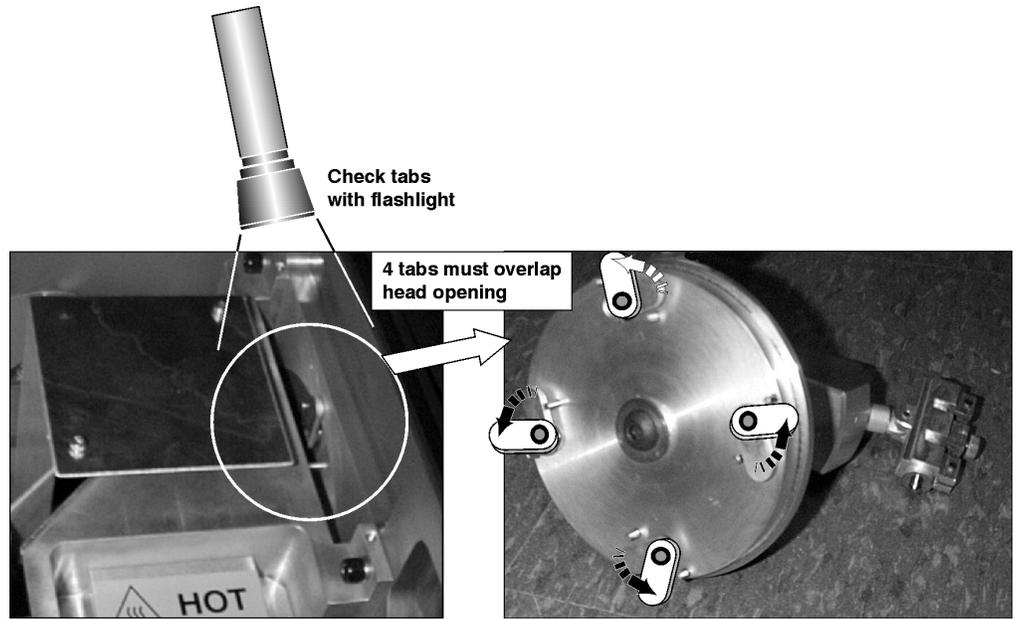

Figure 2.16. 4 tabs must secure jig to the projector “head”
- Reaching into the lamphouse, secure the jig in place with a 3/16" ball driver. A small turn will rotate each tab into place on the other side. Check each tab position with a flashlight and ***tighten fully***. See Figure 2.16.